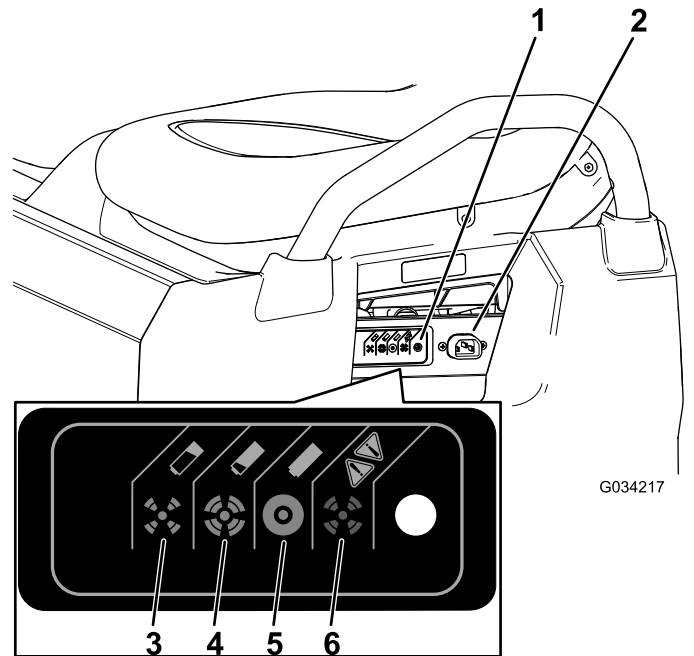

Figure 35
3. Connect a **16 gauge (or larger diameter), 2.5 m (8.2 ft) or shorter charger cord** to the charging receptacle on the machine (Figure 35).
Refer to the following table and Figure 35 for information on the meanings of the varying colors of the charger-status light.